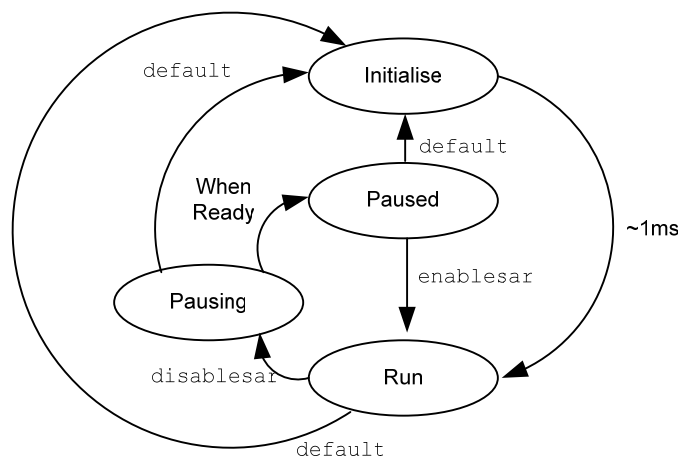

Figure 5-1. Reassembler Operational States.
**Figure** Figure 5-1 shows the Reassembler operational states.